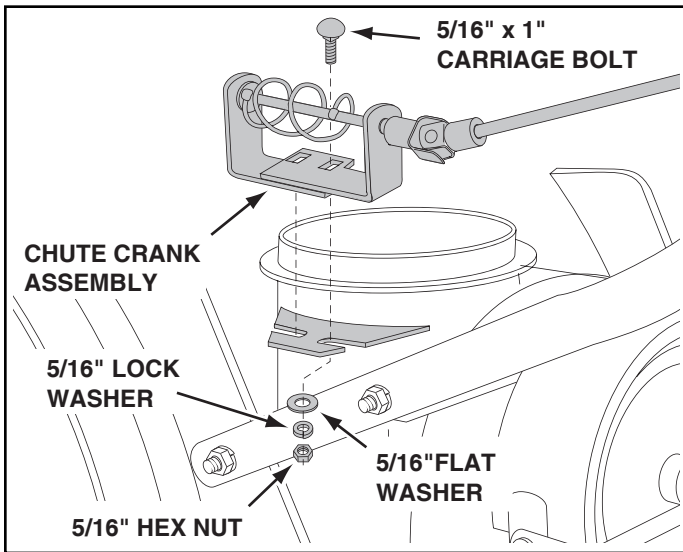

FIGURE 18 LEFT SIDE VIEW
- Attach the chute crank assembly to the plastic bracket on the left side of the thrower housing as shown in figure 18. Use two 5/16" x 1" carriage bolts, 5/16" flat washers, 5/16" lock washers and 5/16" hex nuts. **Do not tighten yet.**